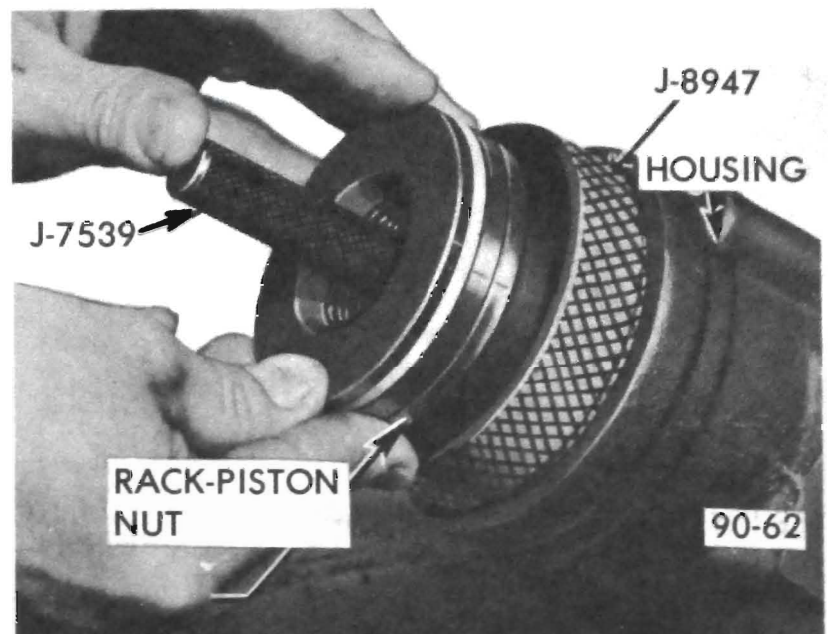

Figure 90-62 Installing Rack-Piston Nut - 4D-4F-4G-4H Series
6. Install ring compressor sleeve tool (J-8947 used for 4D-4F-4G-4H Series and 4L-4N Series with 350 engine; J-7576 used for 4L-4N-4R-4P-4U-4V-4Y Series) in gear housing and hold it tightly against shoulder in the housing. See Figures 90-62 and 90-63. Insert the rack-piston nut into the housing until the ball retaining tool J-7539 engages the worm. Turn the stub shaft drawing the rack-piston nut into the housing. When the piston ring is into the housing bore, the ball retaining tool and ring compressor may be removed.